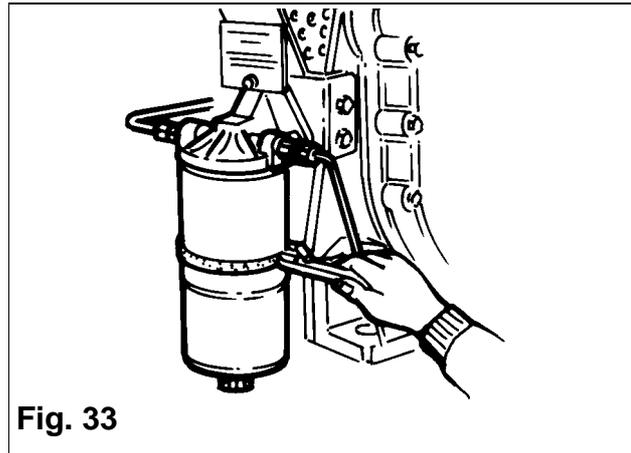

Fig. 33
Remove the filter separator canister using a strap wrench see **Fig. 33** fill the new filter/separator with clean engine oil to the rubber seal, then screw the canister onto the housing using firm hand pressure. Bleed air from the system follow the procedure on **page 21**.
With the lever positioned remove the appropriate filter canister using a strap wrench see **Fig. 35** fill the new filter with fuel apply a smear of engine oil to the rubber seal, then screw the canister onto the housing using firm hand pressure. Air must be vented from each new filter slacken the vent screw (2) **Fig. 33** slowly raise the lever toward the vertical position stop when fuel flows from vent screw, when air free fuel flows tighten the vent screw return the lever to the vertical position and repeat the operation on the second filter. Wipe any spilled fuel from the filter unit, check for leaks at idling and normal running speed.